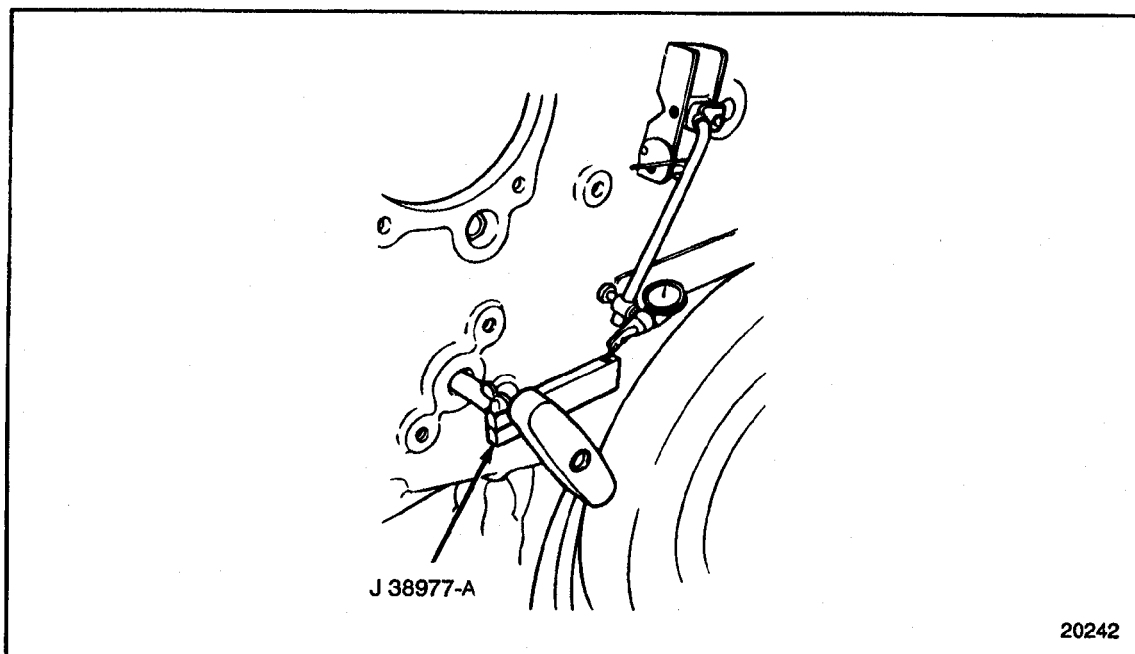

Figure 1-316 Water Pump Gear Lash Tool Method
- [b] Install the water pump gear lash tool, J 38977-A, through the hole in the gear case and thread it into the special water pump drive gear retaining bolt. See Figure 1-316.